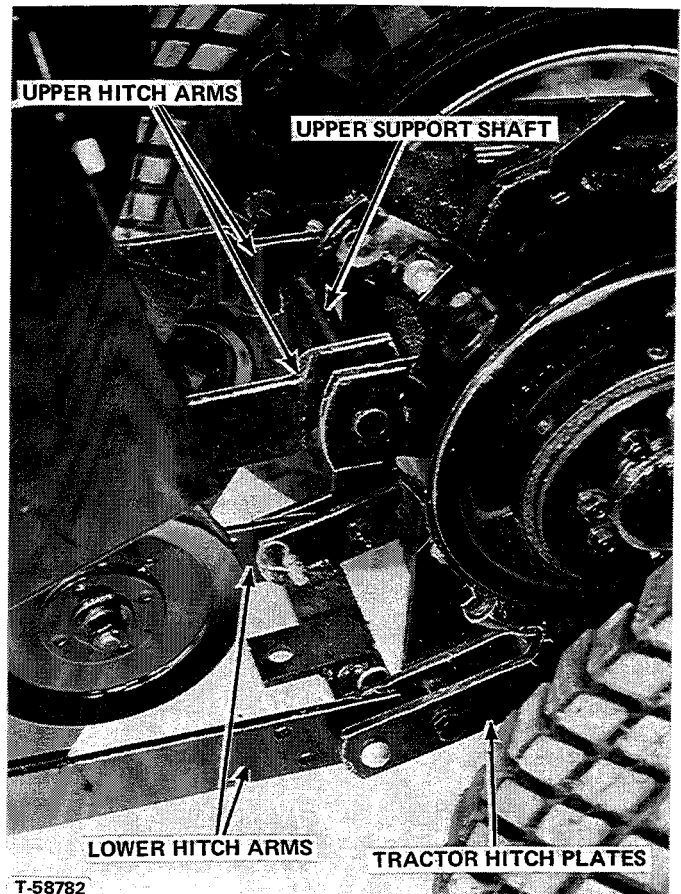
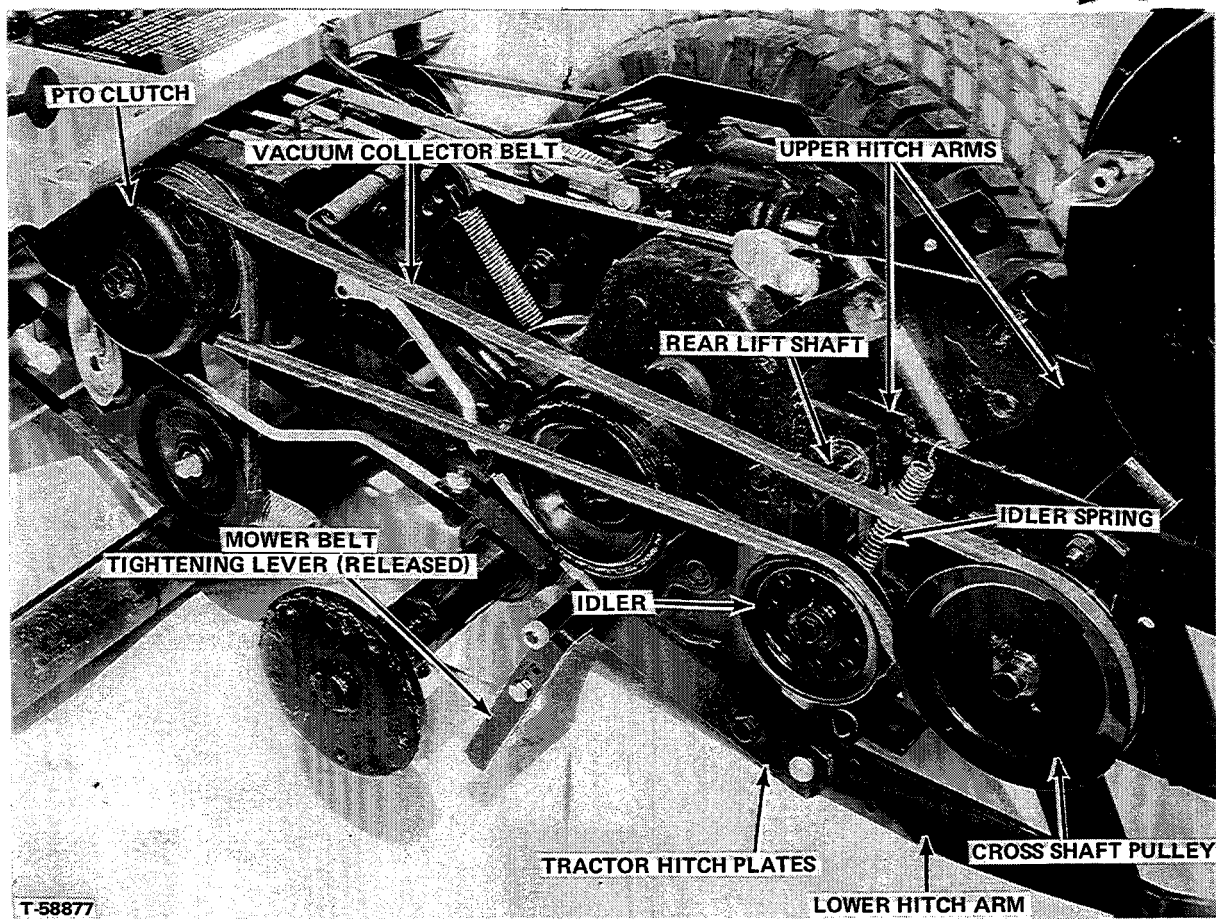

FIGURE 11
FIGURE 12 - (Seat Deck and L.H. Wheel Removed for Visibility)
3. Lift vacuum collector assembly up to rear end of tractor and hook the notches in the upper hitch arms over the upper support shaft (Figure 11) or the rear lift attachment shaft if tractor is so equipped (Figure 12). Swing the lower hitch arms between the tractor hitch plates and attach them to rear hitch holes with pins and lock pins.
4. Install vacuum collector belt over the L.H. side of the P.T.O. clutch into the L.H. belt groove. Place other end of belt over the idler and around the cross shaft pulley as shown in Figure 12. Hook idler spring over the L.H. upper hitch arm.
**NOTE:** If the roving nozzle is to be used first after installing the vacuum collector the mower drive belt should be removed before installing the vacuum collector belt or the mower belt tightener lever should be released by lowering it to position shown in Figure 12 to prevent mower from running while roving nozzle is used.